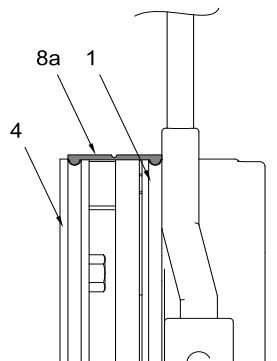

Figure 82 – Traverse Drive Brake Seal
- Press the lips of the seal into the grooves into the stator (1) and the mounting flange (4) (see Figure 82).